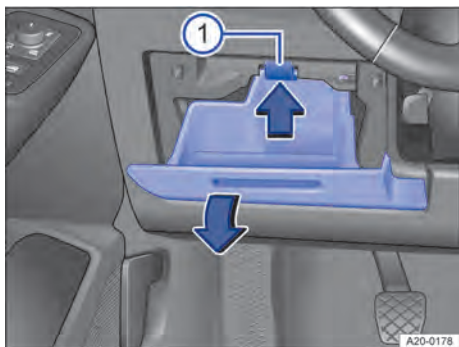

Fig. 179 Fuse box cover in the dash panel: left-hand drive vehicle, on the left-hand side of the steering wheel.
1. Open the storage compartment and empty it if necessary → Fig. 179.
2. Push the retaining lug upwards in the direction of the arrow and at the same time open the stowage compartment further and remove in the direction of the arrow until you can access the fuse carrier → Fig. 179 ①.